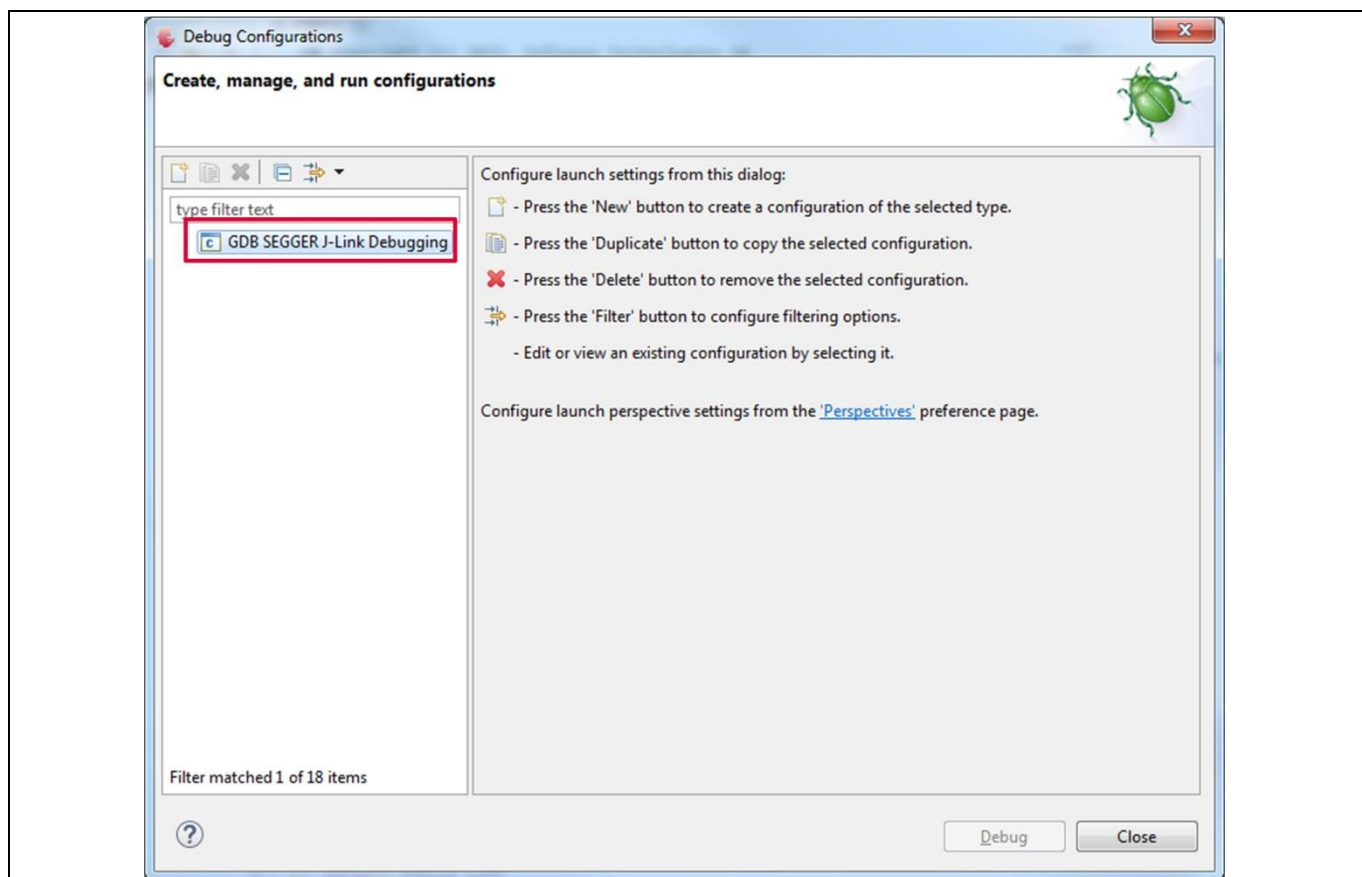

Figure 22 Debug configurations window
- Double-click “GDB SEGGER J-Link debugging” (Figure 22). This creates a debug profile.